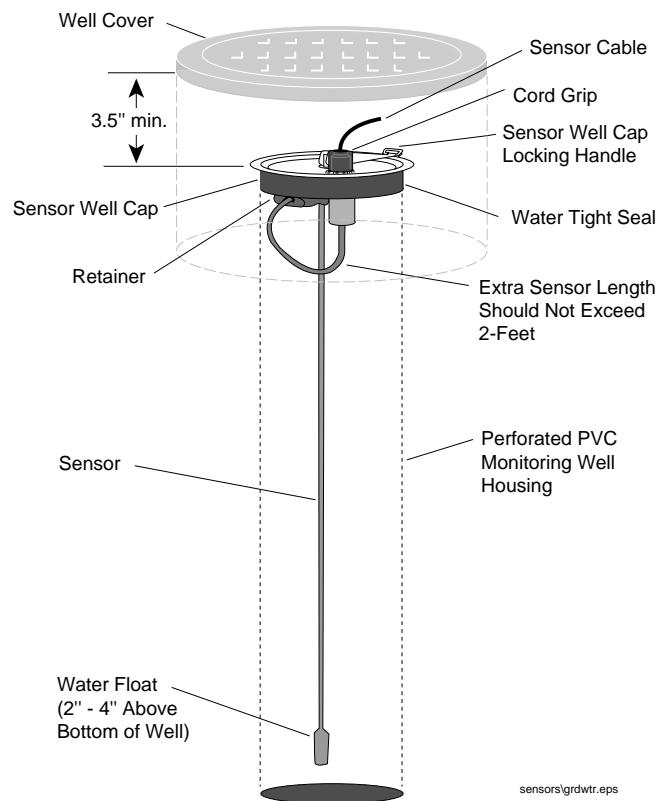

Figure 2. Groundwater Sensor Installation
- Figure 2. Groundwater Sensor Installation 5
5. Secure the sensor at the point marked with the tape to the retainer under the sensor well cap. Allow any excess sensor length (should be no more than 2-feet) to hang loosely from the retainer [Figure 2].